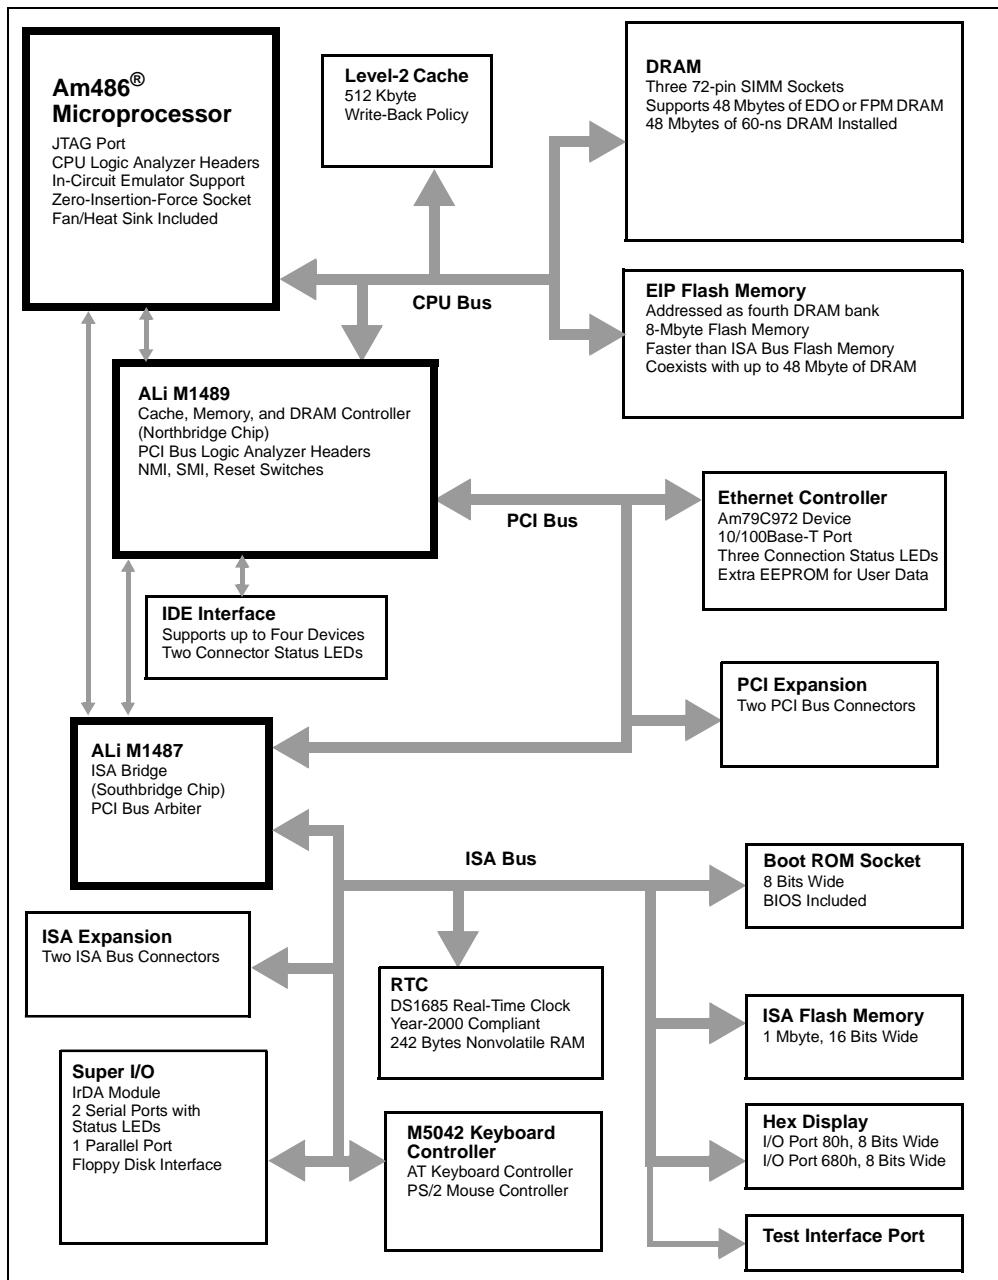

Figure 2-1. PCI CDP Overview (Same as Figure 0-1)
- Figure 2-1 on page 2-3 provides an overview of the platform’s features.